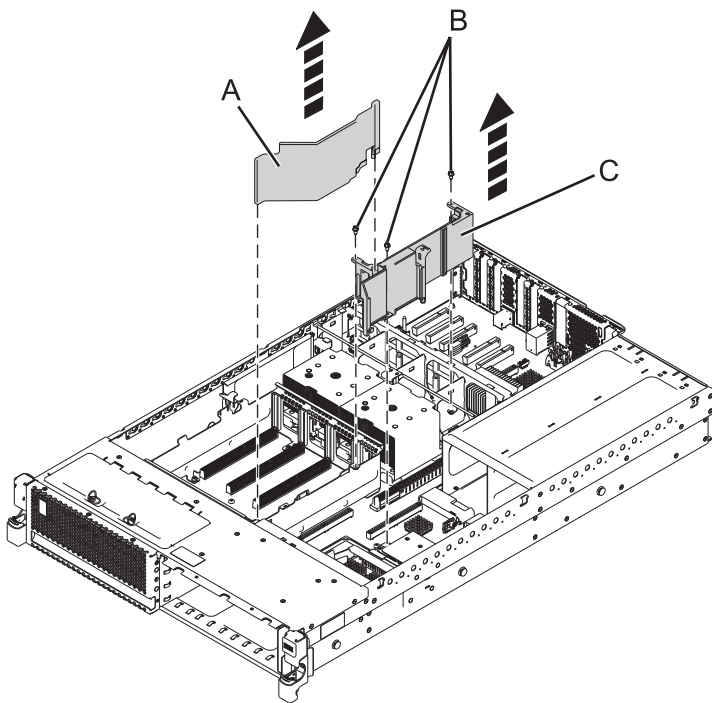

Figure 5. Removing the voltage regulator guide and air divider
19. Remove the voltage regulator guide and air divider. See Figure 5.